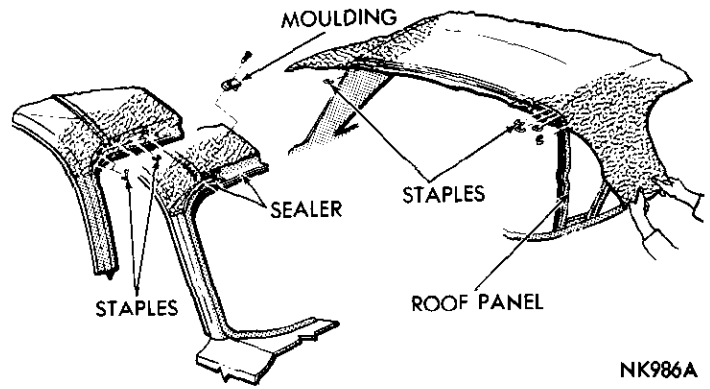

Fig. 5—Stapling Cover at Window Reveals—Sedan
(maximum) or tacks 1/2 inch apart (Figs. 5 and 6).
(11) Position cover to roof panel extension making certain all wrinkles are removed.
(12) Starting at top center, secure cover to rear window reveal using staples spaced 1-1/2 inch apart (maximum) or tacks spaced 1/2 inch apart (Figs. 5 and 6).